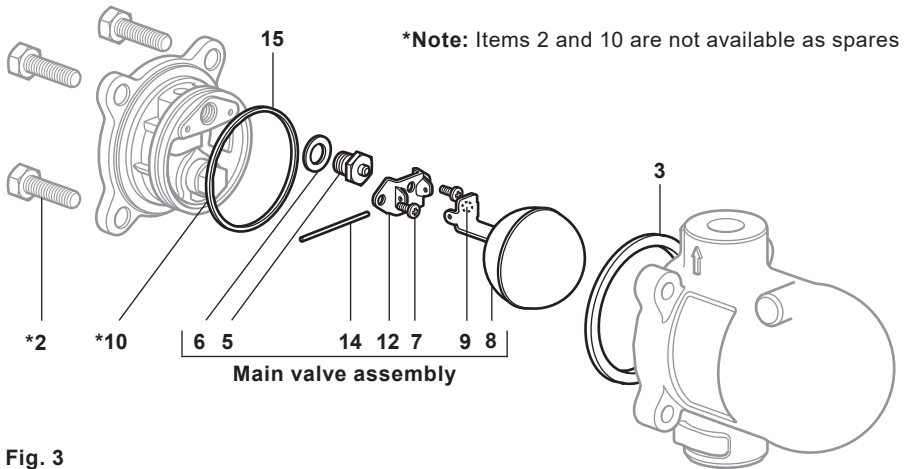

Fig. 3
**Note:** The following Sections need to be read in conjunction with Figure 3, page 11.